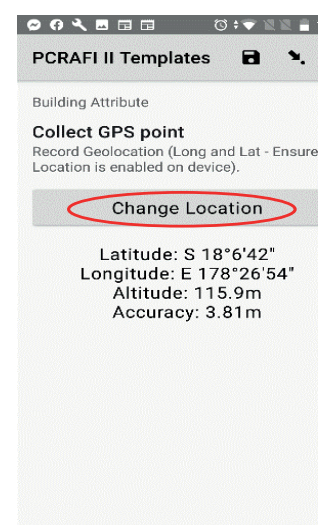

Figure 60: KoBoCollect - Editing Location once saved
4. To edit the location, click on "Change Location" and it will begin processing the location again. Repeat Steps 2-3 (Figure 60).